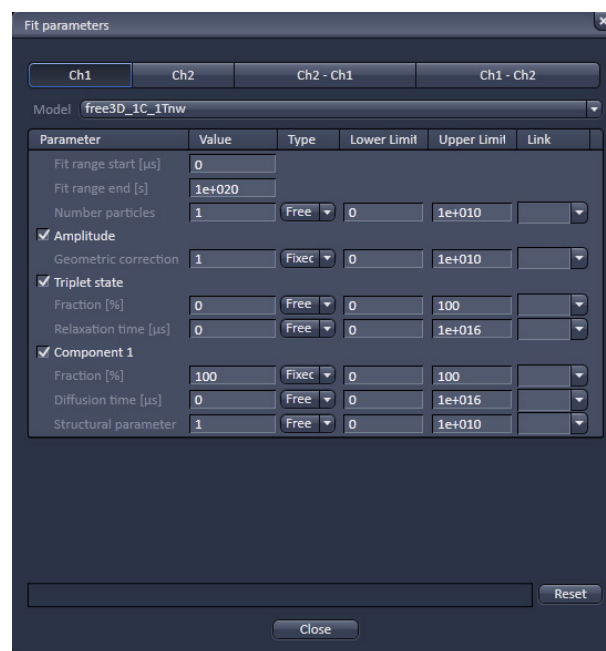

Fig. 248 Fit parameter window
- **Lower Limit:** defines the lower limit value as a fit parameter; if this value is falls short, the fit is rejected and another (global) minimum is searched for. You can change the value by typing the value in the display box. The default value depends on the parameter, but is in most cases 0. (Only available if the **Limits...** button is pressed that will open the **Fit parameter** window (Fig. 248)).
- **Upper Limit:** defines the upper limit value tolerated from a fit; if this value is exceeded, the fit is rejected and another (global) minimum is searched for. The default value depends on the parameter. (Only available if the **Limits...** button is pressed that will open the **Fit parameter** window (Fig. 248)).